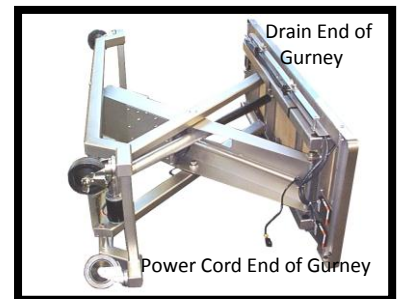

Figure 33: Gurney Laid Down
3. Lay the gurney on one side so that the battery charger faceplate is facing down (Figure 33).